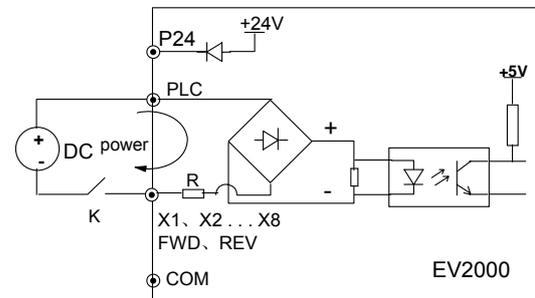

Fig. 3-23 Using an external supply
② If an external power supply is used, then use the Wire connections shown in Fig. 3-23. (be sure to disconnect the cable between P24 and PLC)